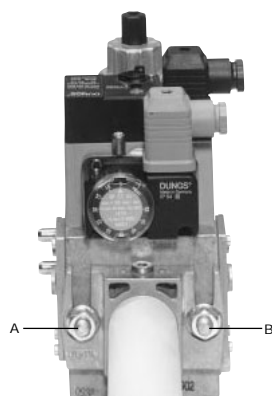
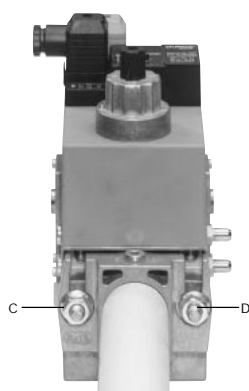

Fig. 4
Fig. 5
3. tighten screws A, B, C and D (Fig. 4 - Fig. 5), according to the mounting positions (Fig. 7);